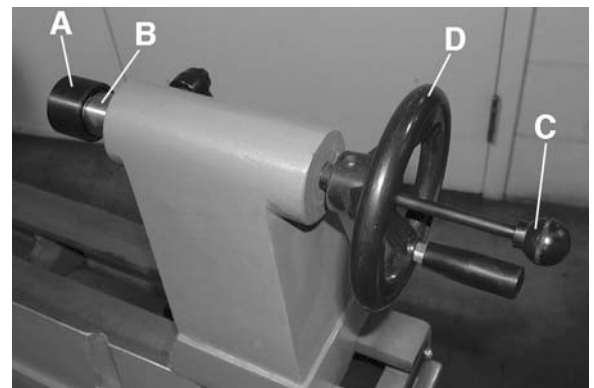

FIGURE 6
1. The live center (A) Fig.6 gets installed inside the tailstock quill (B), simply push the live center quickly and firmly into the quill. A properly installed live center will not pull out by hand.
2. To remove the live center from the tailstock quill, insert the push rod (C) into the opposite end of the tailstock quill (through the center of the handwheel) and knock the live center out of the quill or turn the handwheel (D) counterclockwise until the tailstock quill bottoms out causing the live center to be forced out of the quill.